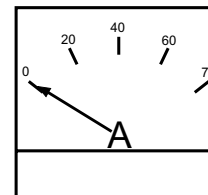

Figure 54. Ammeter (No Load)
12. The ammeter (Figure 54) will indicate zero amps with no load applied. When a load is applied, this meter will indicate the amount of current that the load is drawing from the generator's alternator.